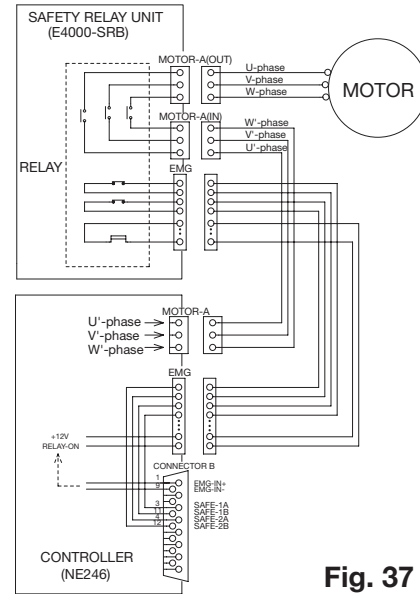

Fig. 37
- Refer to Fig. 37 for connecting relationship between the relay contact output and the safety BOX.